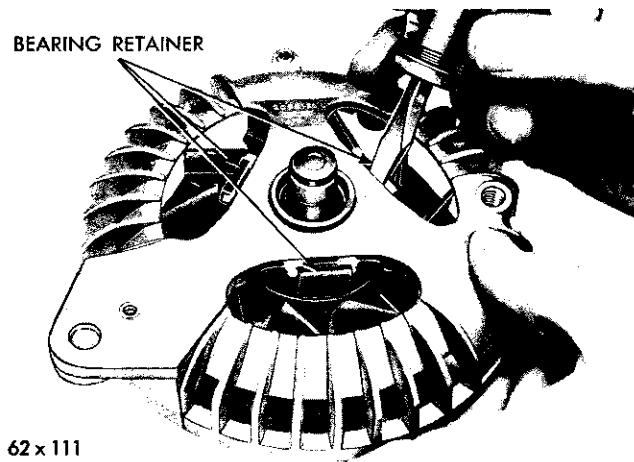

Fig. 26—Disengaging the Bearing Retainer from the End Shield
- (8) Pry the drive end bearing spring retainer from the end shield with a screwdriver (Fig. 26).
- (9) Support the end shield and tap the rotor shaft with a plastic hammer to separate the rotor from the end shield.